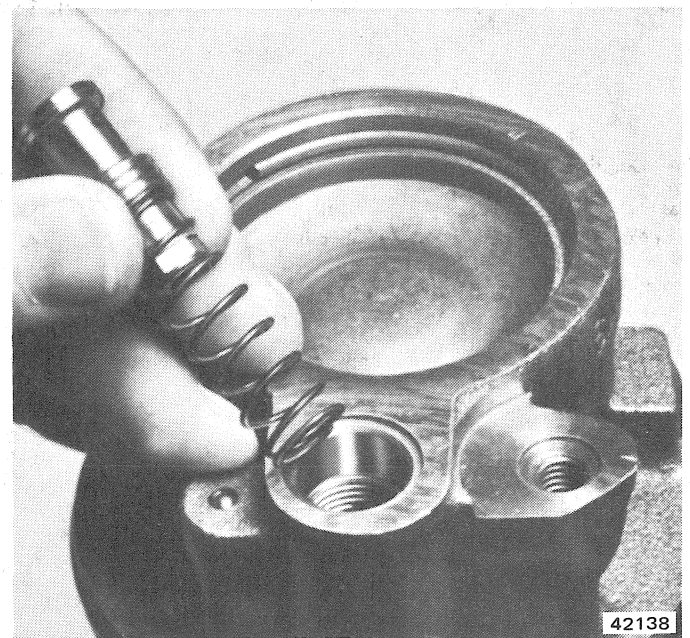

Fig. 2L-62 Flow Control Valve and Spring Installation
(18) Install mounting stud O-ring seals in pump body counterbores (fig. 2L-56). Lubricate O-rings with petroleum jelly before installation.
(19) Lubricate reservoir O-ring seal with petroleum jelly and install seal in pump body seal groove.
(20) Lubricate O-ring seal surface of pump reservoir with petroleum jelly and install reservoir on pump body. Be sure reservoir is aligned with mounting stud bores and seals.